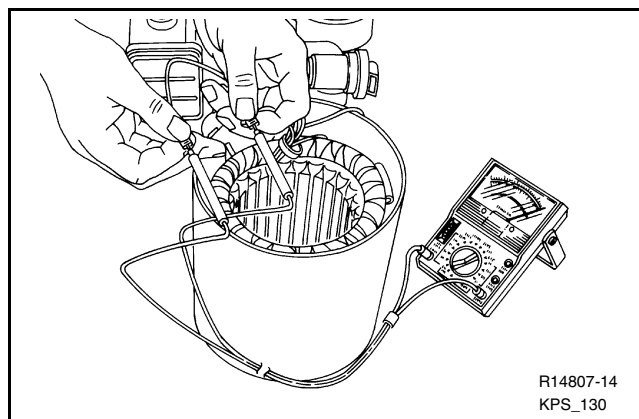

Figure 5-8 Testing Stator Windings
5. To check for stator continuity, set the ohmmeter on R x 1 scale. First set the ohmmeter zero by holding the red and black meter leads together and setting the ohmmeter reading to zero. Then check the stator continuity by connecting the meter leads to the stator leads as shown in Figure 5-8.